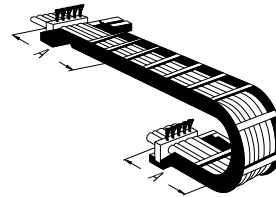

Fig. 4
- At both ends of the chain in case of short energy chains (→ Fig.4).